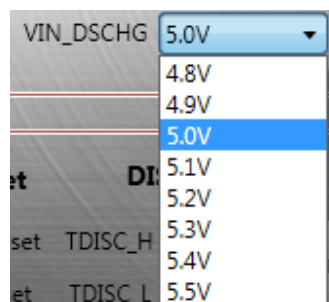

Figure 22: OTG Output Voltage Regulation Setting
5. Set the OTG output voltage regulation (see Figure 22). Its range is 4.8V to 5.5V, and the default value is 5.0V.